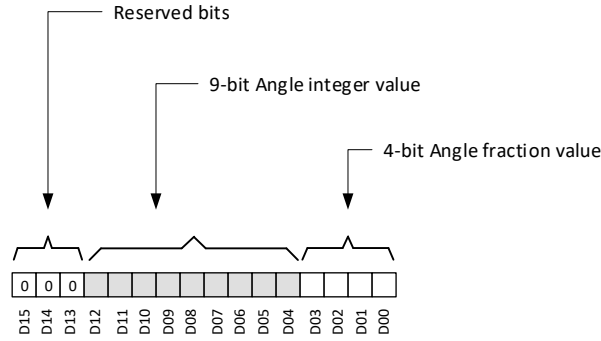

图 7-17. Angle Data Definition
The TMAG5173-Q1 calculates the angle from a pair of magnetic axes based off the ANGLE_EN register bits setting. 图 7-17 shows the angle information stored in the ANGLE_RESULT_MSB and ANGLE_RESULT_LSB registers. Bits D04-D12 store angle integer value from 0 to 360 degree. Bits D00-D03 store fractional angle value. The 3-MSB bits are always populated as b000. Use 方程式 14 to calculate the angle value.
- D_i is the data bit as shown in 图 7-17.